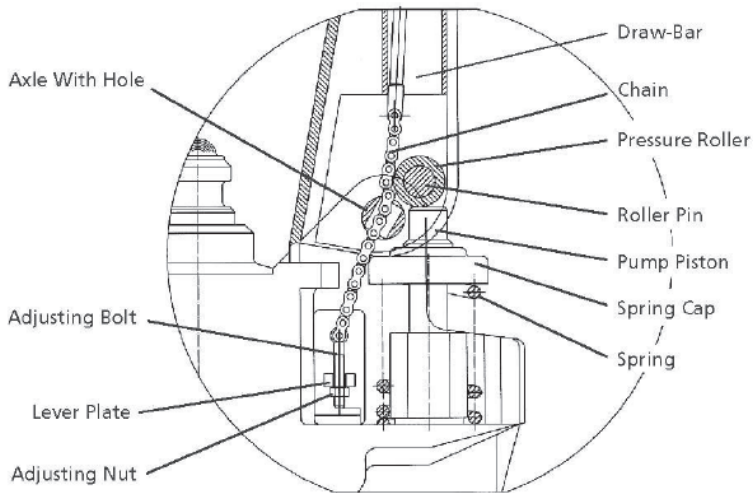

Fig. 3
- b) Set the control lever of the handle to the 'LOWER' position, then pass the adjusting nut, adjusting bolt through the hole of the axle with your hand (Fig. 3).